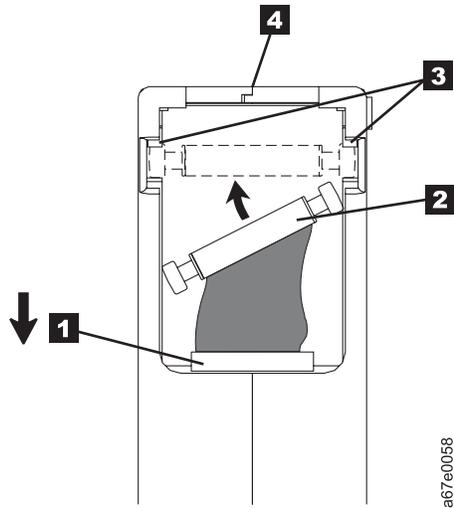

Figure 42. Placing the dislodged leader pin into the correct position. The cartridge door is open to show the leader pin.
1. Slide open the cartridge door (**1** in Figure 42) and locate the leader pin (**2**). You may need to shake the cartridge gently to roll the pin toward the door.